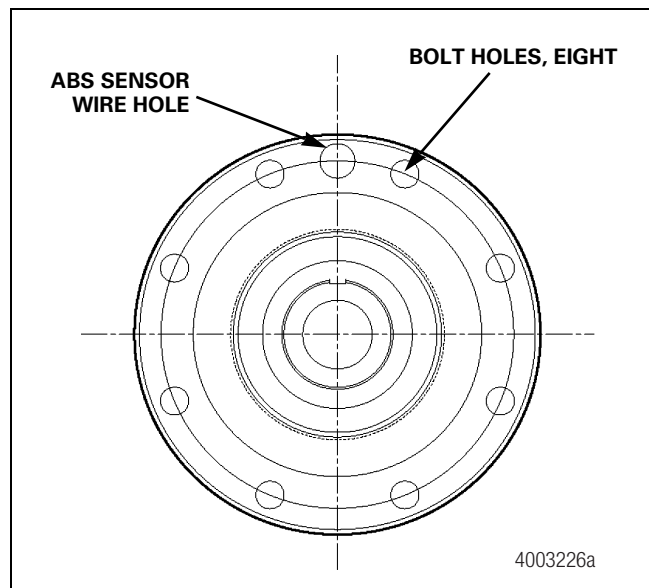

Figure 6.27
- **For a nine-hole flange:** Fasten the brake by installing the correct 5/8-inch (15.875 mm) diameter fasteners through the eight 0.656-inch (17 mm) holes. Tighten the fasteners to 180-230 lb-ft (244-312 N•m). Figure 6.27.